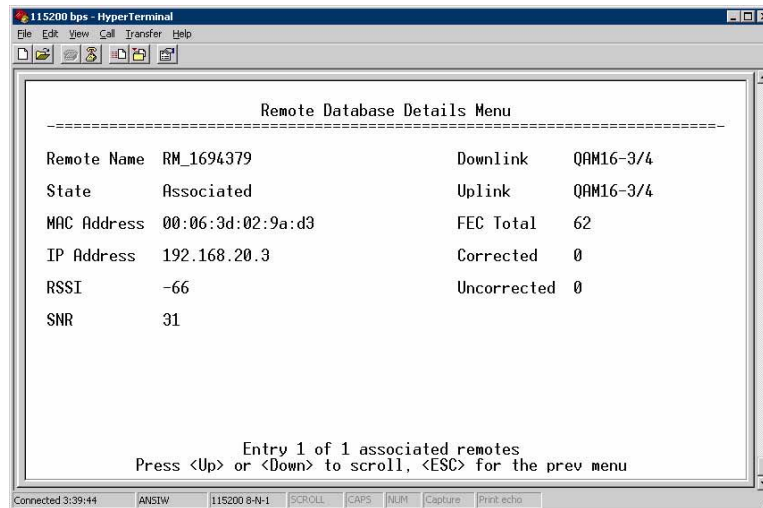

Figure 3-85. Radio Details Menu
- ¥ **Radio Details** □ This selection presents a screen (Figure 3-85) showing key operating details of the transceiver.